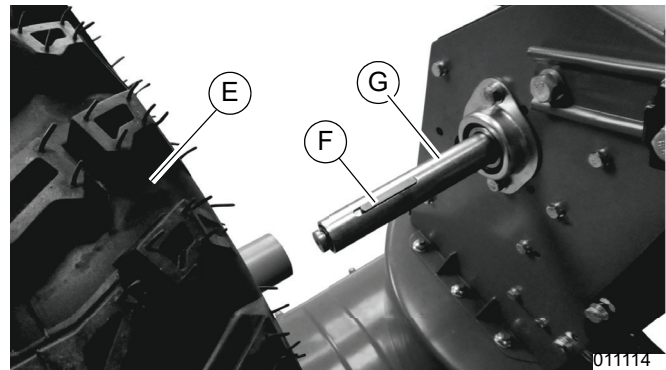

Figure 4-21. Remove Wheels
6. See Figure 4-21. Remove both wheels (E) and shaft keys (F) from axle shafts (G).